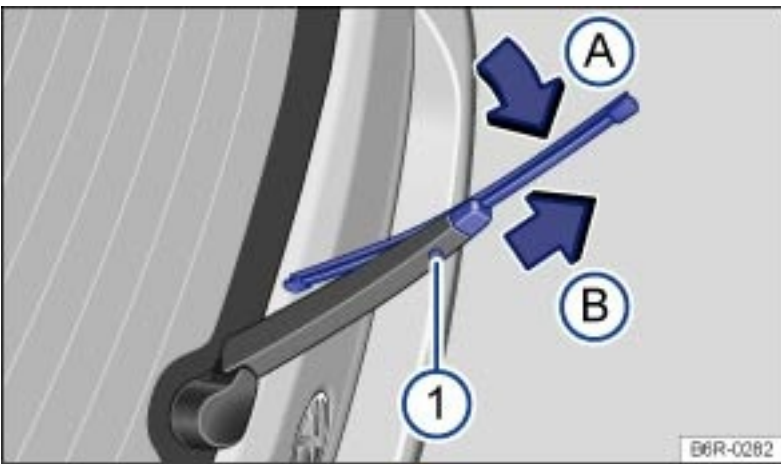

Fig. 197 Changing the rear window wiper blades.
- Press and hold the release button → Fig. 197 ① .
- While lifting the wiper blade in the direction of the wiper arm → Fig. 197 (arrow ①), pull off the wiper blade in the direction of the arrow ②. This may require moderate force.
- Install a new wiper blade of the same length and type onto the wiper arm by pushing in the opposite direction of the arrow → Fig. 197 ② until it latches.